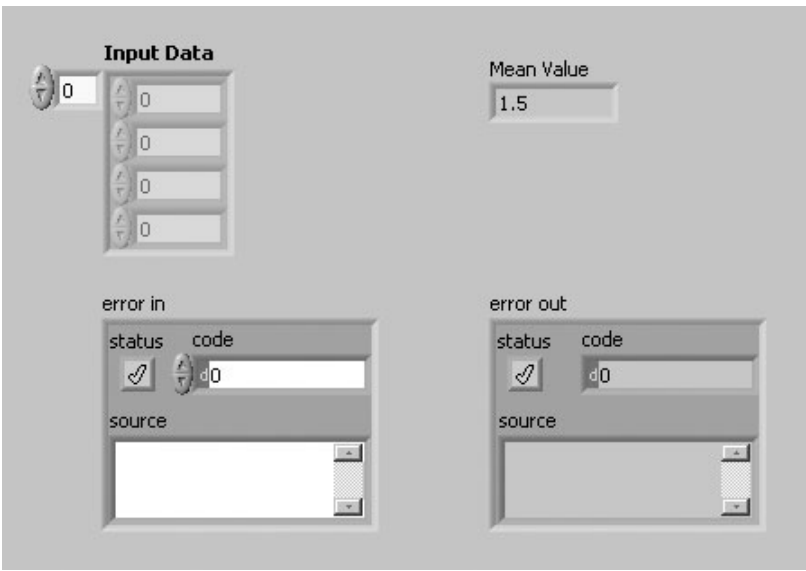

Figure 14.40
1. Create a VI like the one shown in Figure 14.40, with an input array of numerics and an output called "mean." Save your VI as **Calling a DLL.vi**.